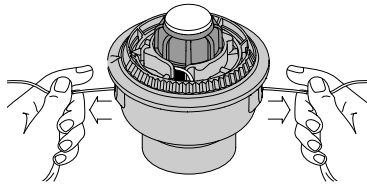

Fig. 20
1. Turn the bump knob counterclockwise and remove the bump knob, spring and foam seal (Fig. 20).